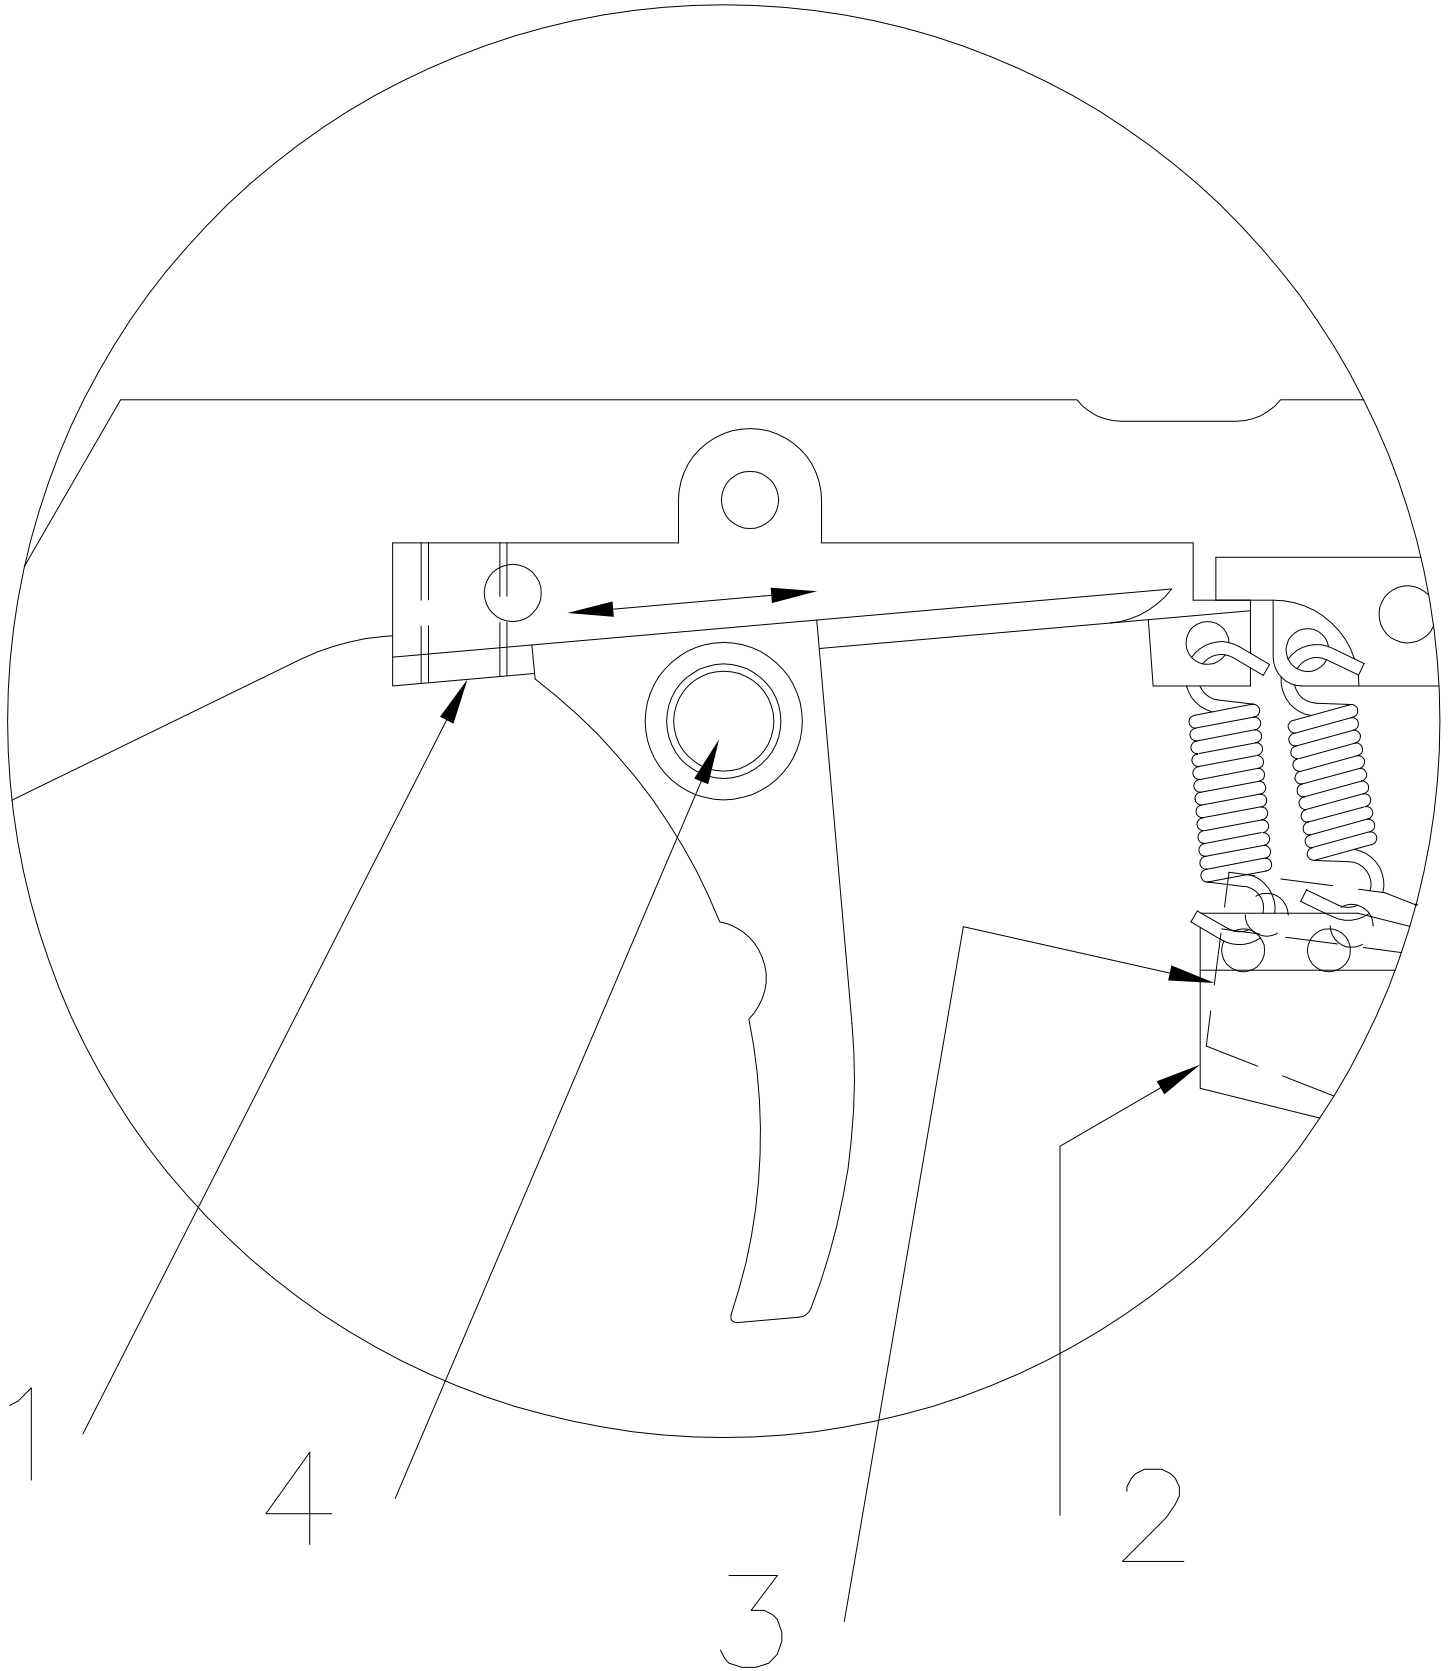

Fig. 4
4. Sighting adjustment (*Fig. 4*)